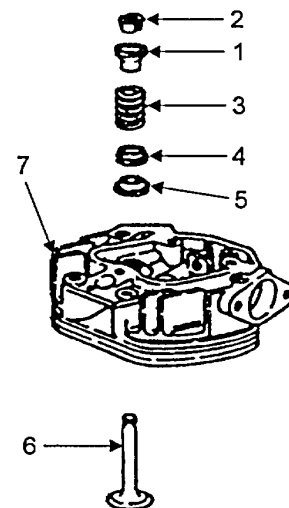

FIGURE 5-24. REASSEMBLE VALVES
k. Insert valve (Figure 5-24, Item 6) into cylinder head (7).
l. Install cap (5), washer (4), valve spring (3) and cup (1).
m. Press down cup (1) and install collets (2).